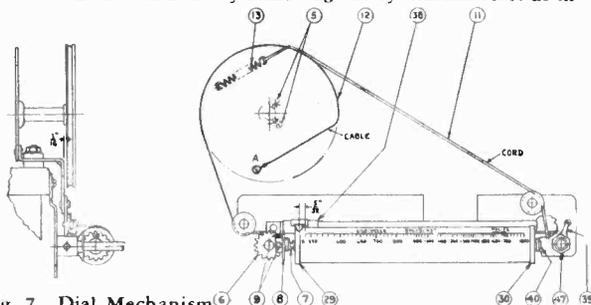

Fig. 7 Dial Mechanism
With set screws (5) loosened and tuning condenser plates fully engaged, place the drum in the position shown in Fig. 7. The drum should be located on the tuning condenser shaft so
as to be in line with the drive cord pulleys ($\frac{1}{8}$ in. from the dial mechanism mounting bracket), and so that, with condenser plates fully engaged, guide (38) occupies the position shown in Fig. 7.
The position of the dial scale pointer with respect to the tuning condenser drum is held fixed by a special metal braid cable (12) connecting the drum with guide (38). Tension is maintained on the cable through the drum spring (13) and drive cord (11). To replace either the drive cable or the drive cord, remove the dial scale for convenient access to guide (38). Unhook spring (13) from its drum tab to release tension. Unhook the cable or cord from guide (38) and unwind from the pulleys and drum. To replace the cable or cord, rethread to agree with Fig. 7, and rehook drum spring (13) as shown.